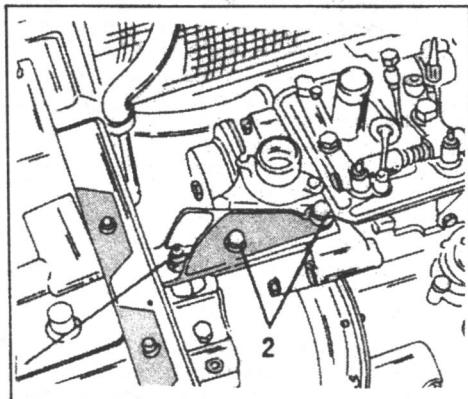

Fig. 1.58. — The engine mounting at the front of the engine.
- The nut securing the engine mount (1 in Fig. 1.58) must be tightened to 5.5 kgm (40 ft.lb.), the bolts (2) near the water pump to 5.0 kgm (36 ft.lb.).